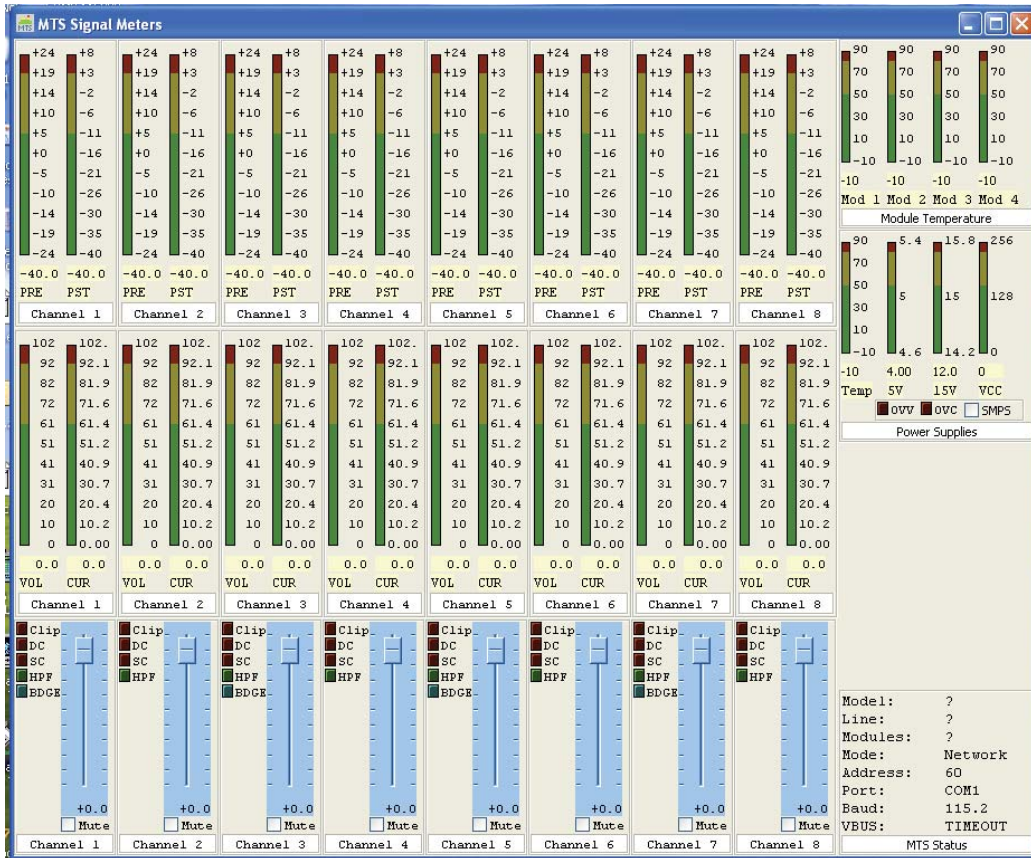

Figure 2.34: VBUSMON Signals page.
- The Signals tab will show the display in Figure 2.34 below. Note: If “Timeout” is shown in the bottom right corner, then the RS485 bus is not connected to the amplifier. If connection is successful, then “OK” will show.